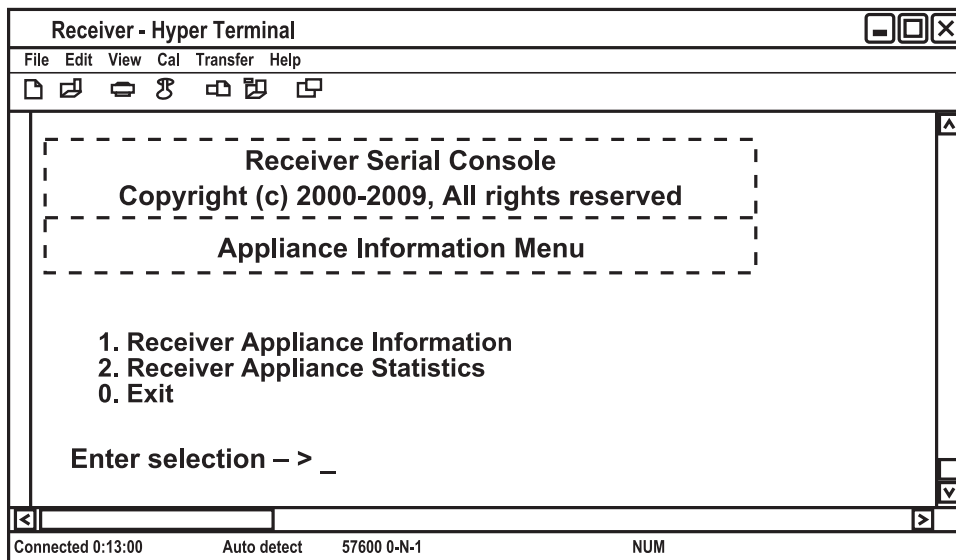

Figure 4-14. Appliance Information Menu.
- Press "6" to select Appliance Mode in the Receiver Main Menu and press "Enter." The Appliance Information Menu (Figure 4-14) will appear.